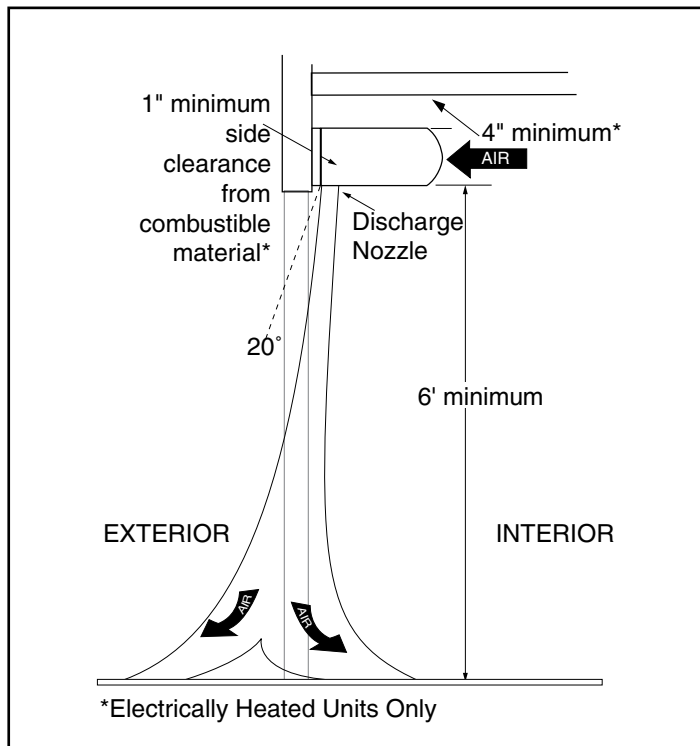

Figure 2
- A. When determining the mounting location for the air curtain(s), make sure that nothing interferes with the curtain of air developed when the discharge vanes are directed from 0° to 20° toward the door opening. If the air stream strikes any obstruction (the top edge of the doorway, a door opening device, etc.), the effectiveness of the air curtain will be greatly reduced. **See Figure 2.**